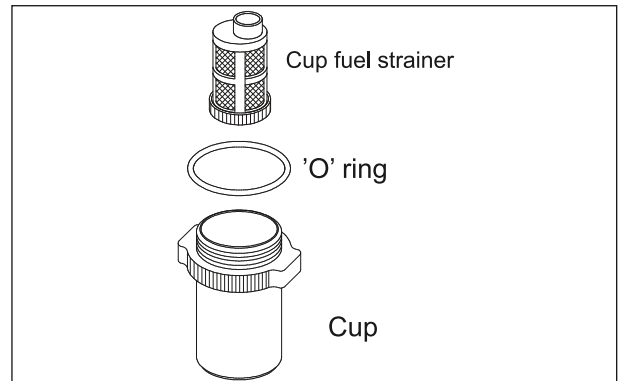

Fig. 2.37
- Remove the 'O' ring and filter cup. (Fig. 2.37)